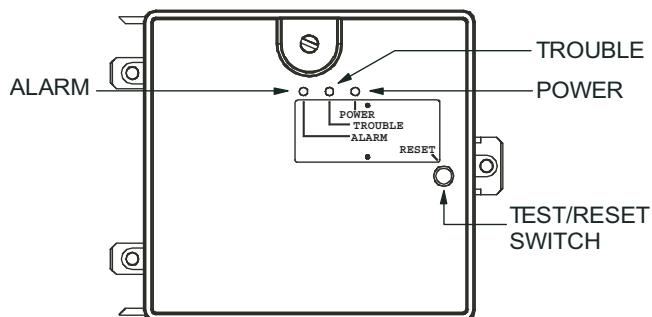

Fig. 27 — Controller Assembly
- The contacts on the controller's supervisory relay switch positions. (See Fig. 27.)